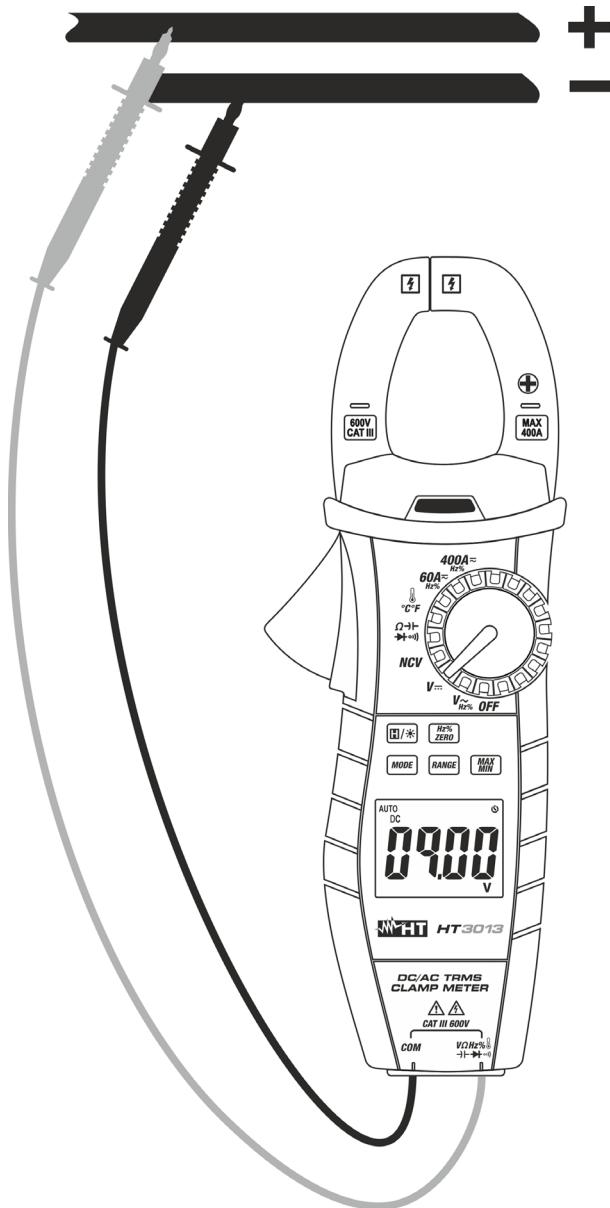

Fig. 3: Use of the instrument for DC Voltage measurement
3. Position the test leads in the desired points of the circuit to be measured (see Fig. 3). The display shows the value of voltage.
5. When symbol “-” appears on the instrument’s display, it means that voltage has the opposite direction with respect to the connection in Fig. 3